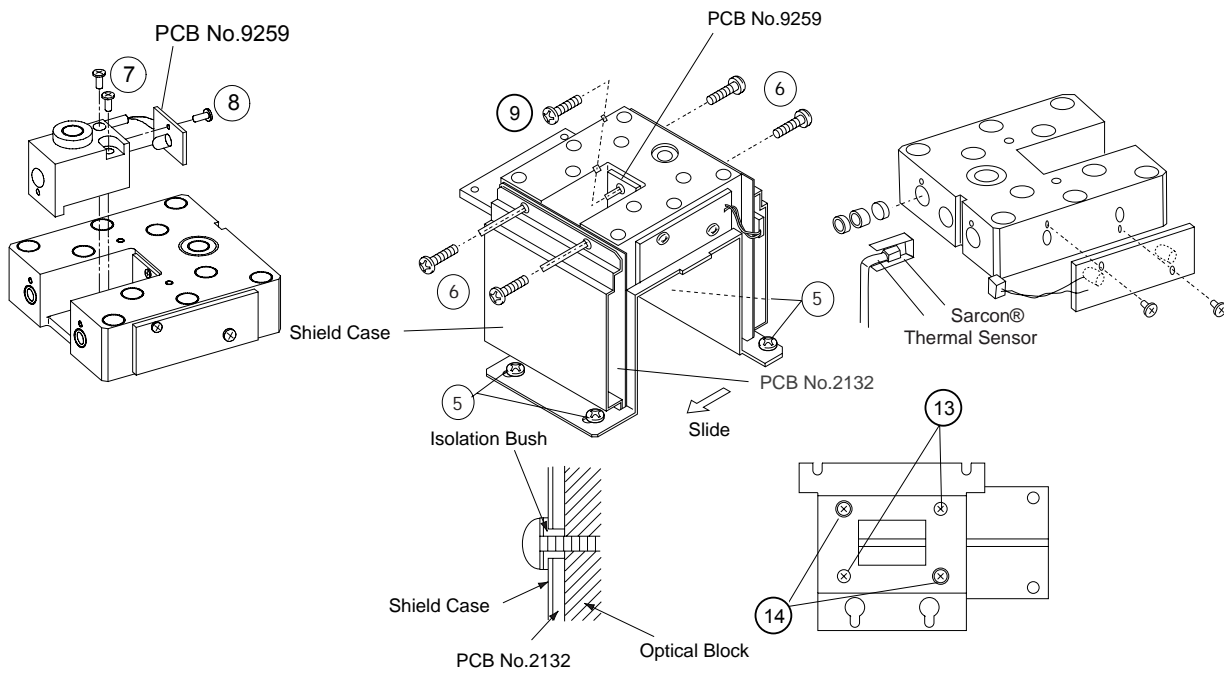

Figure C-2: Disassembling Detector Unit
- (5) For Detector Unit Assembly, loosen Four fixing screws (item 5 in the Figure C-2), and remove it by sliding to the left side.
- (6) Disconnect relay Connector and PCB Connectors.
- (7) Channel 6 is fixed by two screws.
- (8) PCB No. 9259 (Immuno, LED) is fixed by one screw.
- (9) PCB No. 9259 (AT3, LED) is fixed by one screw.
- (10) PCB No. 2132 is tightened by four screws together with Shield Case. (Including Isolation Bush.)
- (11) PC Board of Photo Diode for AT-3 is fixed to Heater Block by one screw.
- (12) Thermal Sensor is inserted in the Block with Sarcon®.
- (13) Turn over the Block and remove the aluminum plate by removing two screws. (item 11)
- (14) Remove two fixing screws (item 12) on the aluminum plate to remove the heater.